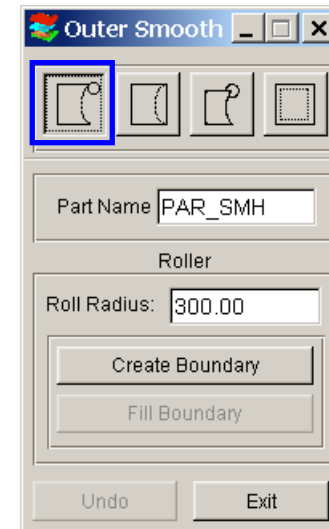

Figure 4.16
- b) Select **Roller** (Figure 4.16)